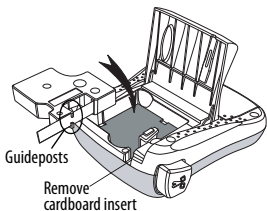

Figure 4
- i** Before using the label maker for the first time, remove the protective cardboard insert from the tape exit slot. See Figure 4.